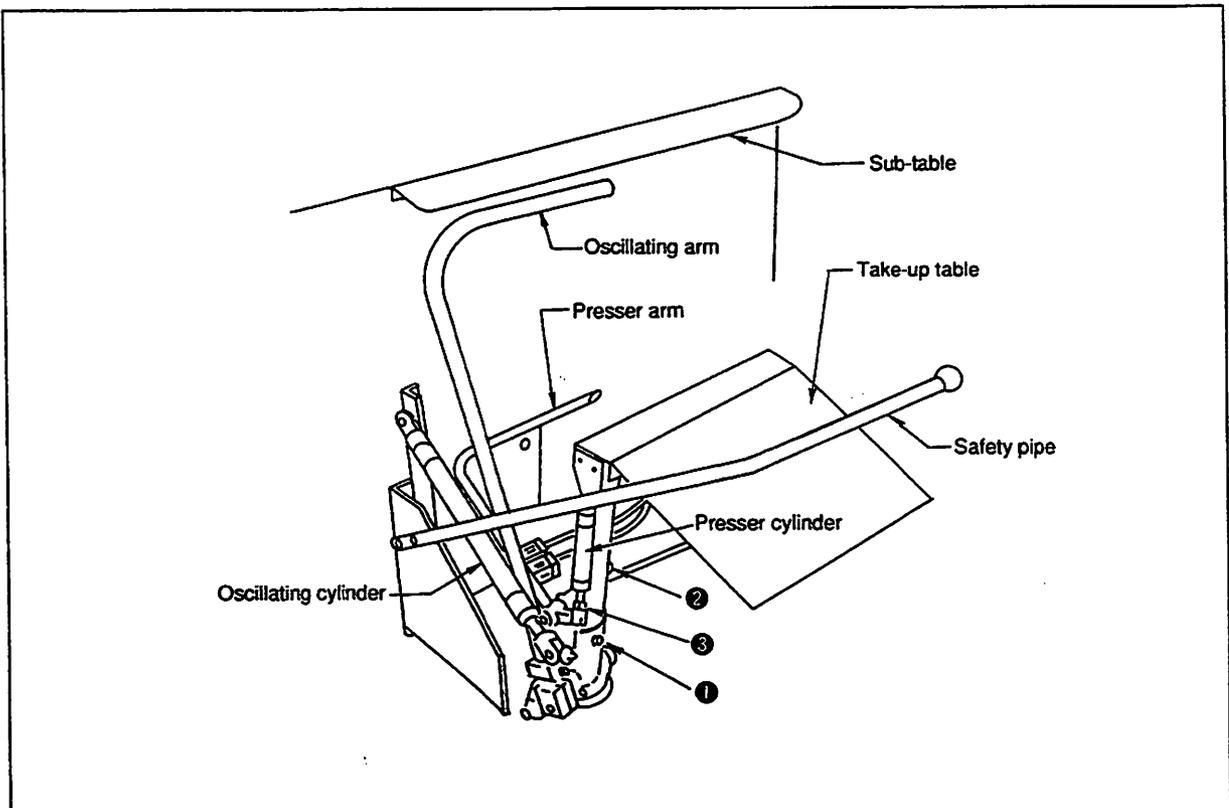

Fig. 11
- ① The presser cylinder actuates the presser arm to press a workpiece after the corner knife has been lowered.
- ② The oscillating cylinder actuates to place the workpiece on the take-up table.
- ③ The presser arm and oscillating arm return to their home position.
Adjust the height of the take-up table using set bolt ① . Adjust the inclination of the take-up table using set bolt ② . Adjust the height and inclination of the take-up table according to the size of the workpiece to be stacked. (Fig. 11)
Loosen locknut ③ , and adjust the end of the presser cylinder to provide a proper pressure on the workpiece between the presser arm and the take-up table. (Fig. 11)